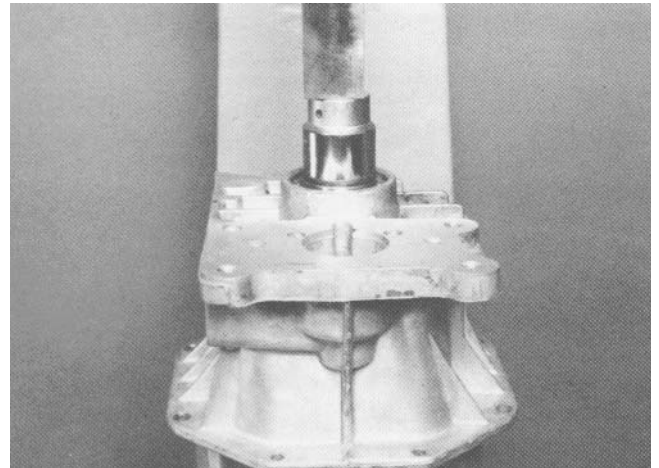

Figure 39
3. Put the front housing on a press. Using a press plate, push the pinion outer bearing cup into the housing until it bottoms in the housing (Fig. 39).